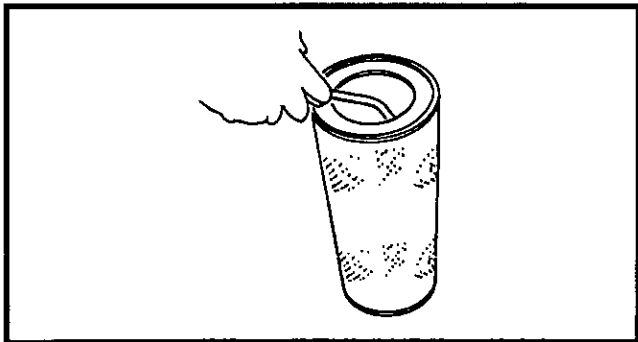

Figure 5-3 Dry Cleaning with Air Jet
- Carefully direct the compressed air at an angle onto the inside surface of the element, (Figure 5-3).